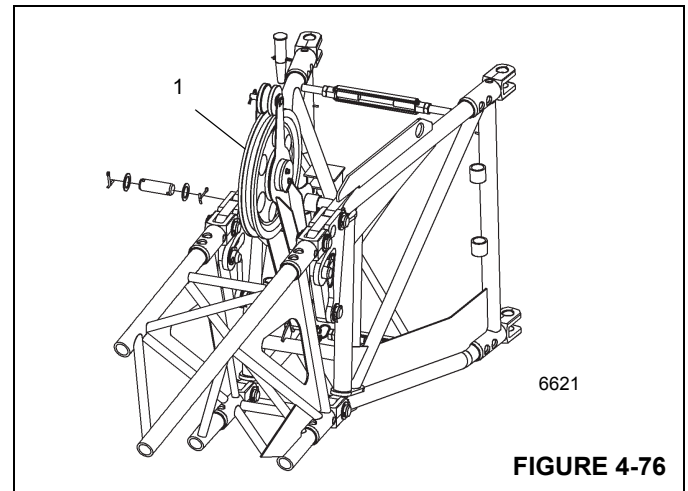

FIGURE 4-76
On the 33 ft (10.1 m) section, there is a deflection sheave at the rear (1) (Figure 4-76). Fold out the deflection sheave for operation w/the 33 ft or 56 ft swingaway at 20° or 40° offsets.